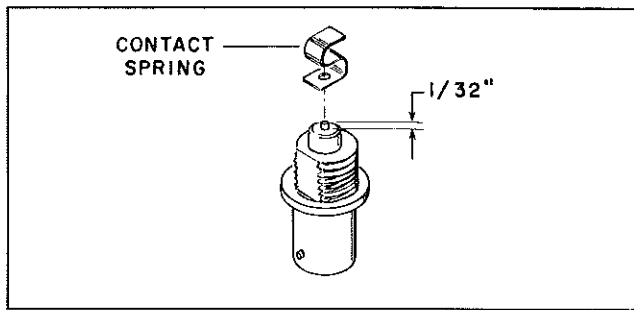

Figure 7. Cutting BNC Connector Center Conductor Lead to Accommodate Contact Spring
- (1) Cut center conductor lead to approximately 1/32 inch (see Figure 7.)
- (1) Set the ohmmeter for the RX100 or higher range. Connect one ohmmeter lead to the BNC center conductor and the other to the BNC shell.
- (2) Take a reading. Reverse the leads and take another reading.
28. Parts referred to in the following procedures are identified in Figures 7 and 8.